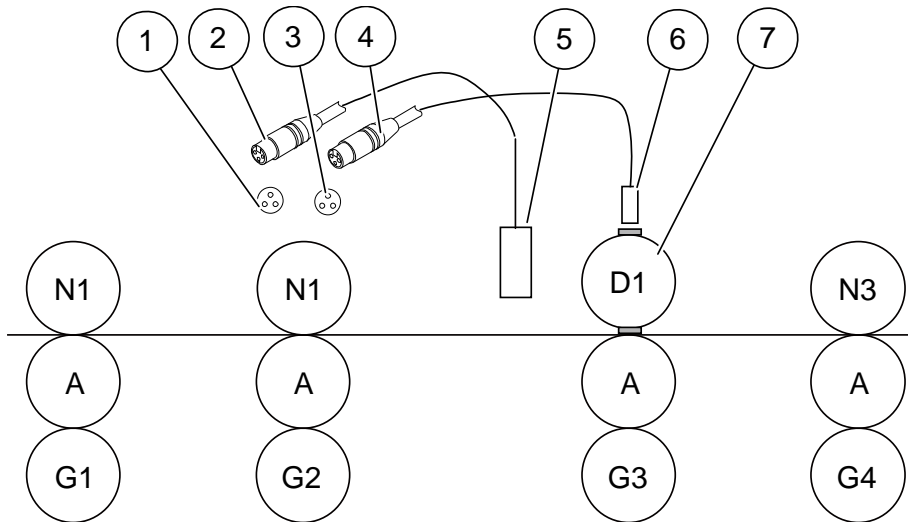

Figure 7-77 Installing proximity sensor and color mark sensor
- (1) Socket (2) Cable plug (3) Socket (4) Cable plug (5) Color mark sensor
(6) Proximity sensor (7) Die cutter
Step 1: Install the color mark sensor (5) and proximity sensor (6) to the position shown in Figure 7-77;
Step 2: Connect cable plug (4) with socket (3) above cutter G2;
Step 3: Connect cable plug (2) with socket (1) above cutter G2.